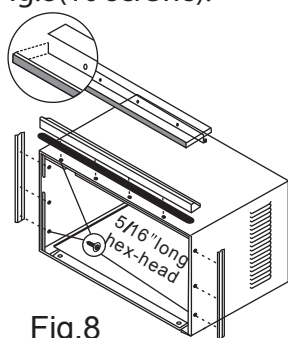

Fig.8
2. Install top angle and side retainers to cabinet as shown in Fig.8(10 screws).